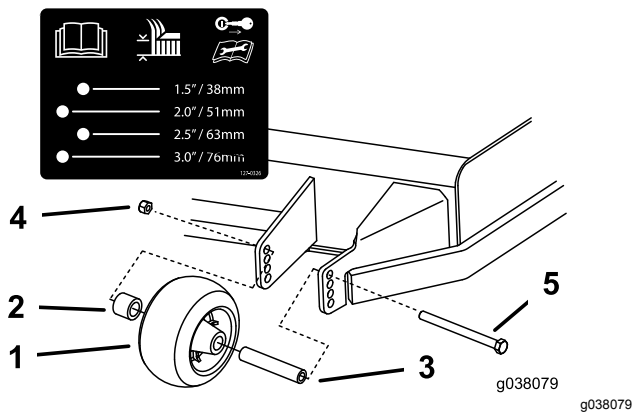
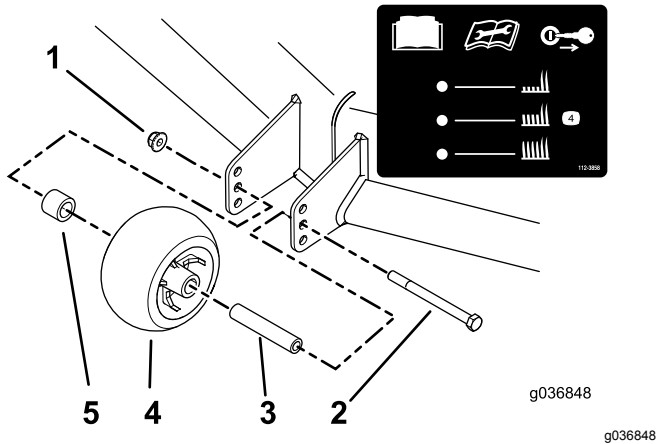

Figure 35
Figure 36
3. Adjust the anti-scalp rollers as shown in Figure 35 or Figure 36.